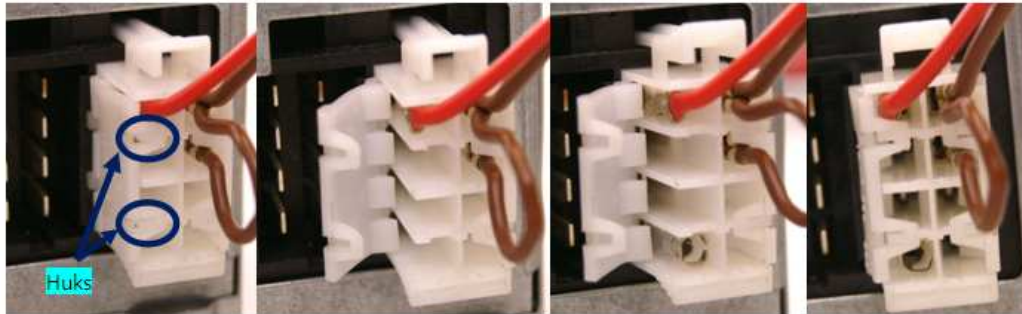

Figure 102 Adding contact on tachograph connector
- Tachograph mounted on vehicles does not have D8 contact. In order to add it, you have to undo the hooks and add the contacts (Figure 102). Contact code in Farnell system: 925596-1.